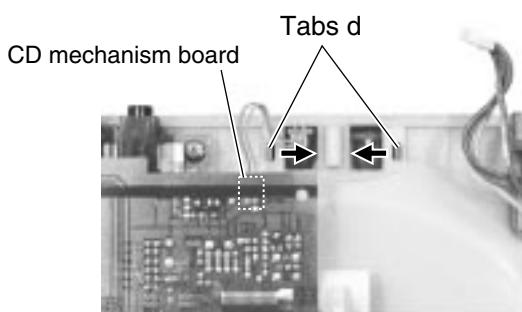

Fig.40
■ Removing the LED board (See Fig.40 and 41)